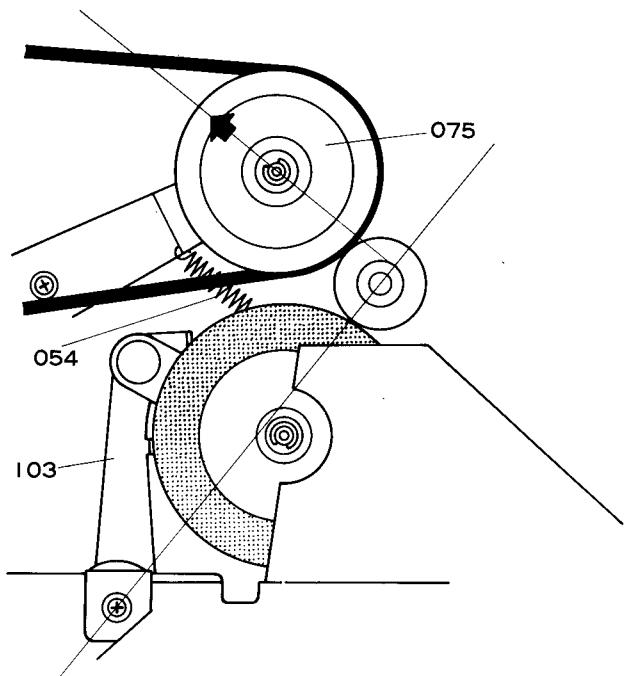

Fig. 7
*** REWIND ROLLER PRESSURE ADJUSTMENT** (Refer to Fig. 7)
- (1) Turn on the power supply switch and shift the function selector knob (005) in rewind position.
- (2) Shift the shut-off switch (SW7) in ON position by pressing the shut-off switch lever (104).
- (3) Hook a tension gauge on rewind roller (075) and pull it in the direction at right angle to the line connecting the center of idler shaft and motor pulley.
- (4) If the set is normal, the measured value is 400 ± 50 g.
- (5) If the tension is out of this range, adjust it by rewind roller lever spring (054).